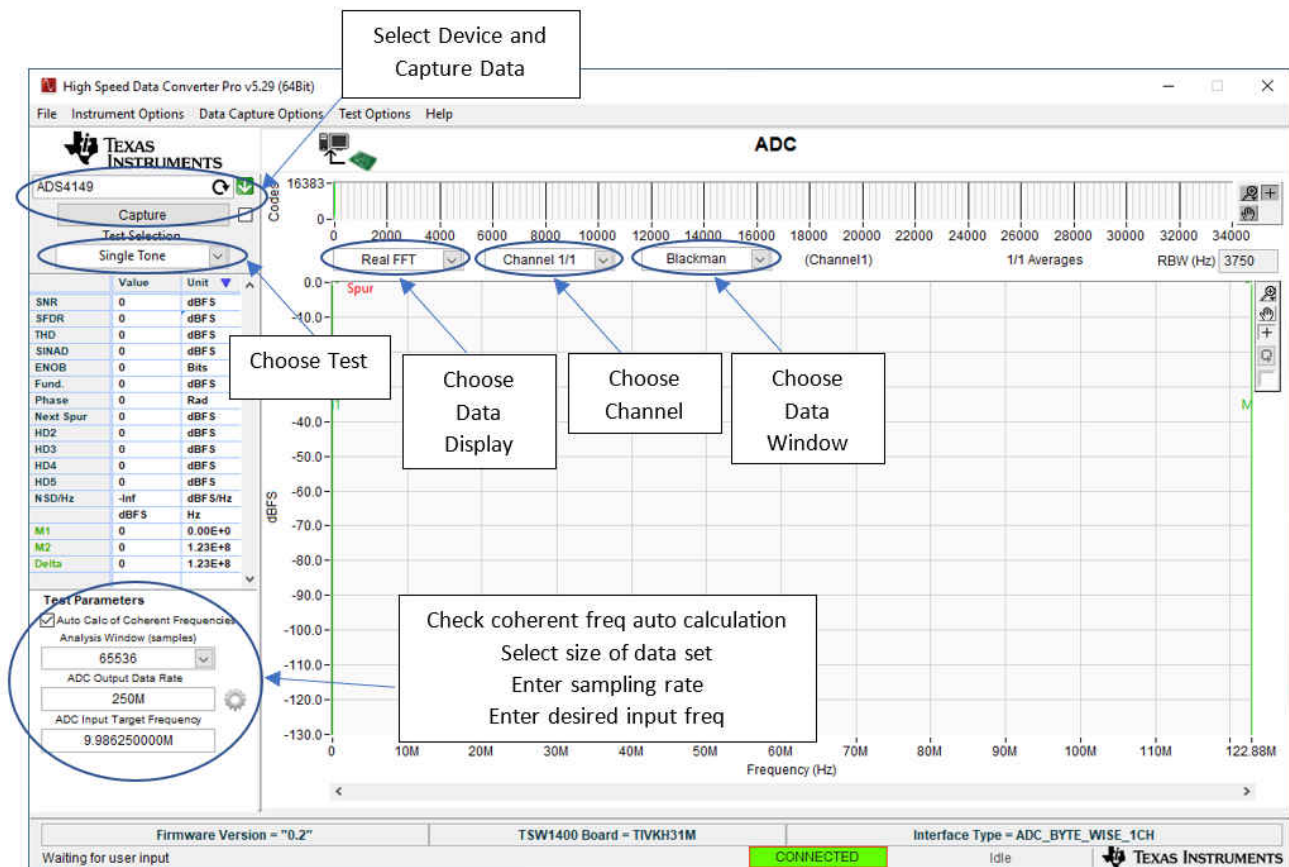

Figure 5-1. TSW1400 GUI Introduction
- Configure the TSW1400 (see Figure 5-1).